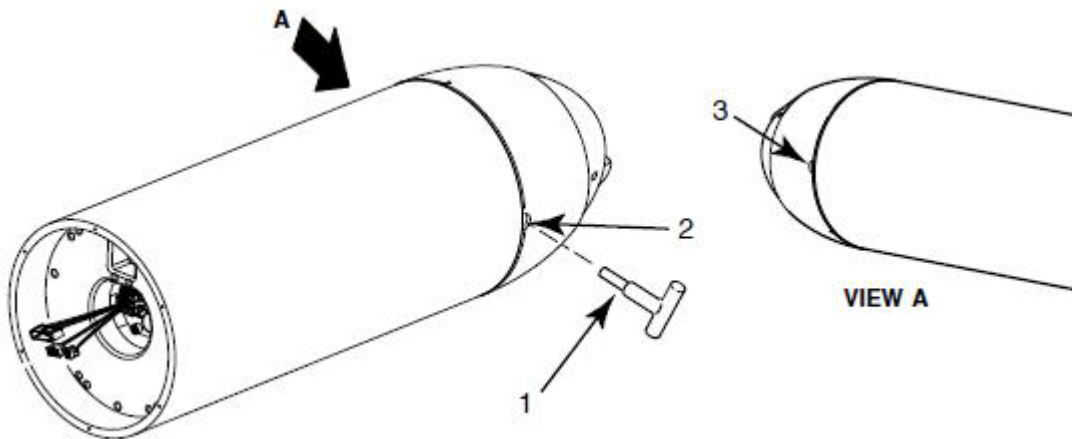

Figure 2-3 Forward assembly (200/1000M).
3. Using the hull separation tool (Figure 2-3, Item 1) at locations 2 and 3 in Figure 2-3, disengage the forward hull section from the forward assembly.